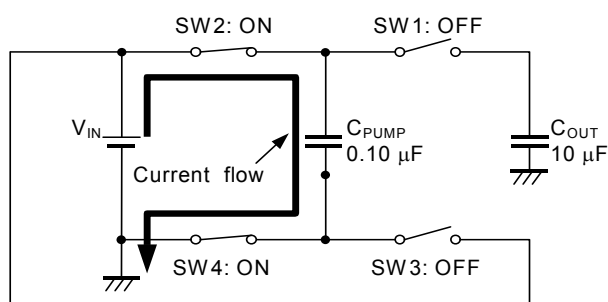
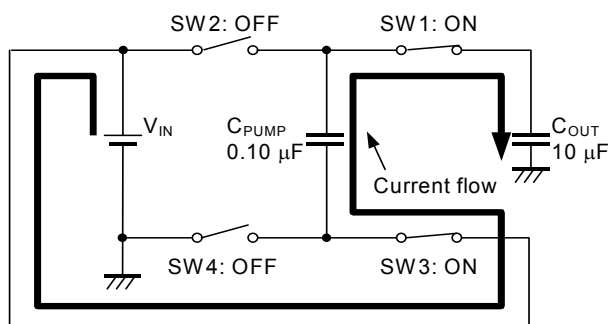

Figure 8
Figure 9
Figure 8 shows the charge cycle, and **Figure 9** shows the discharge cycle.
- The ON/OFF pin is configured as shown in **Figure 9** and is neither pulled up or down internally, so do not use this pin in a floating state. When not using the ON/OFF pin, connect it to the VIN pin.